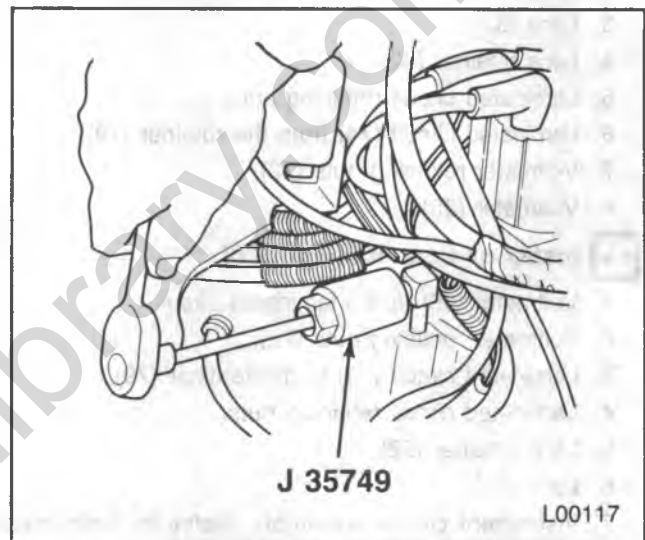

Figure 10 — Oil Pressure Gage Sensor Replacement
3. Sensor (Figure 10).
↔ Install or Connect (Figure 10)